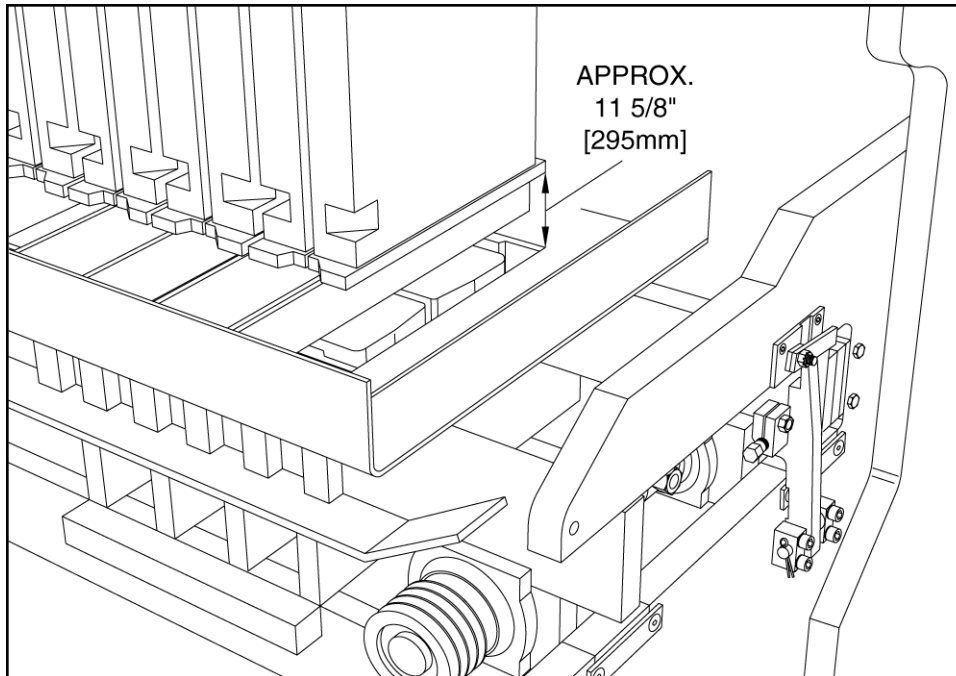

Figure 5.27 SHOES 4" [102MM] ABOVE MOLD
- 5.6.6 Measure from bottom of shoe to top of mold end liners (see figure 5.27). Add dimension “C” to this measurement (dimension “C” is the amount of compression. For detailed explanations, see section 5.8).